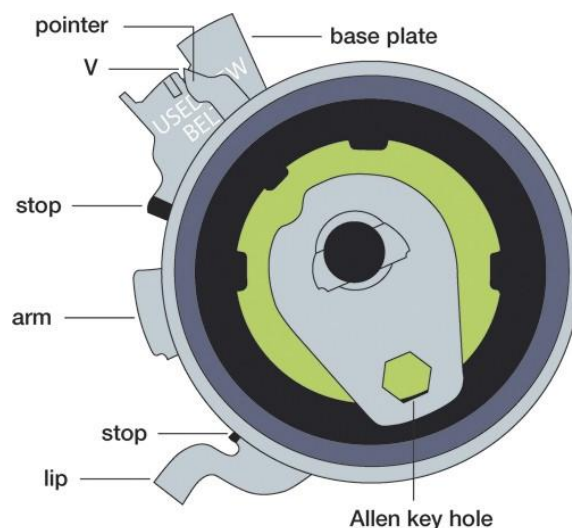

Fig. 3
14. Adjust tensioner (while holding the tensioner bolt in place), till pointer in line with **V** ("NEW" position); the allen key hole has to be in +/- 5 O'clock position now (Fig. 3)